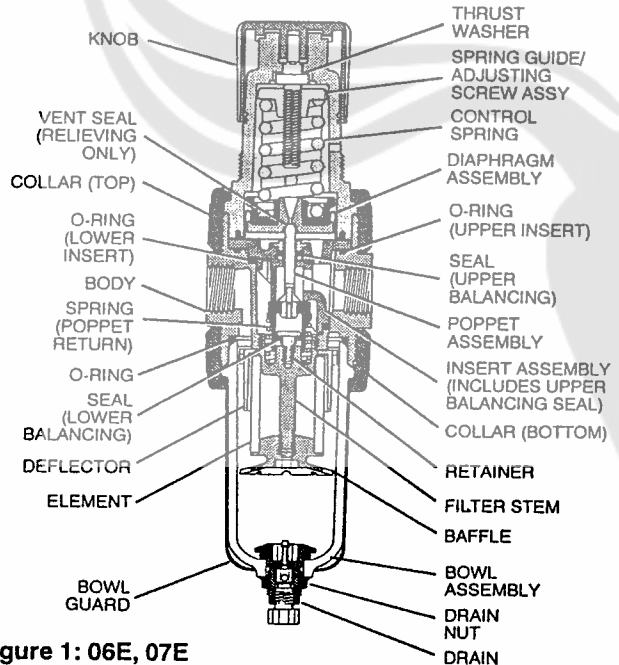

Figure 1: 06E, 07E
**A. 06E & 07E Units -** (Refer to Figure 1.)